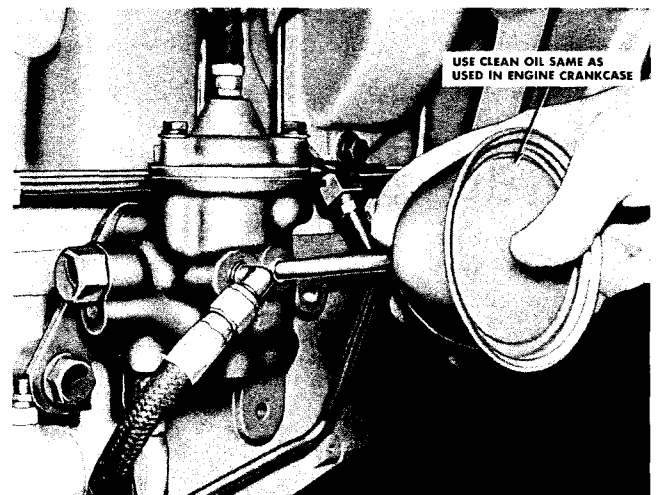

Fig. 5-9. Fill aneroid with oil
3. Fill aneroid with clean engine lubricating oil through the hole until oil fills to hole level. Fig. 5-9. Reinstall filter or pipe plug.